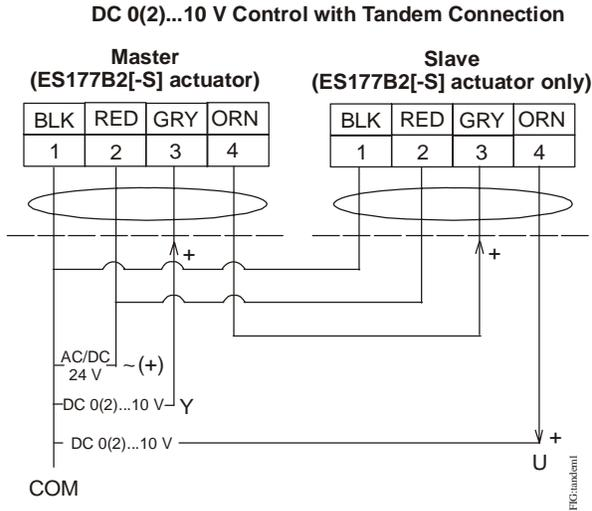
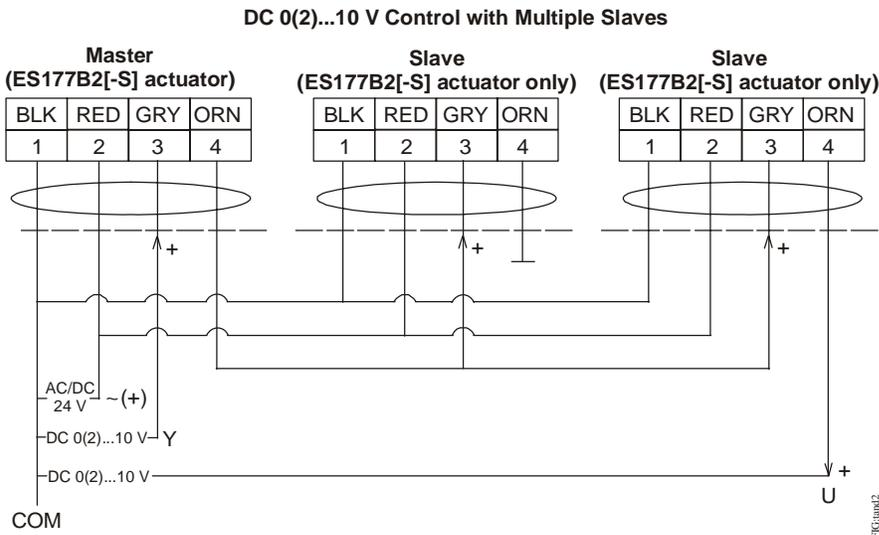

Figure 13: Tandem Connection
Figure 15: Tandem Connection with Three Actuators
The tandem configuration (Figure 13 and Figure 15) provides twice (with two actuators) or triple (with three actuators) the running and spring return torque of a single actuator, or 354 lb-in (40 N·m), 531 lb-in (60 N·m). The actuators may be mounted in tandem using the M9000-158 Tandem Mounting Kit. To mount a third actuator, user-configured bracketing is required.
- Two or three ES177B2(-S) Series actuators may be operated in tandem on the same shaft. If mounting two actuators, see Figure 13; for three actuators, see Figure 15.